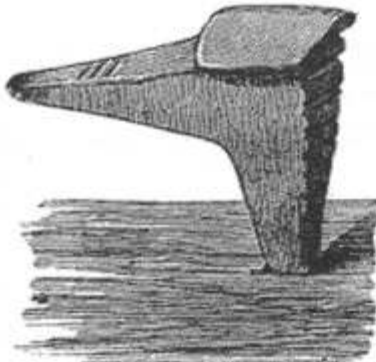

Fig. 217.—Froesch la Mère. †
2. *Ancient Bronze Implements of Great Britain, Weapons and Ornaments of Great Britain and Ireland*, John Evans, 1881, Longmans, Green and Co. London. pp.182-183, fig.217